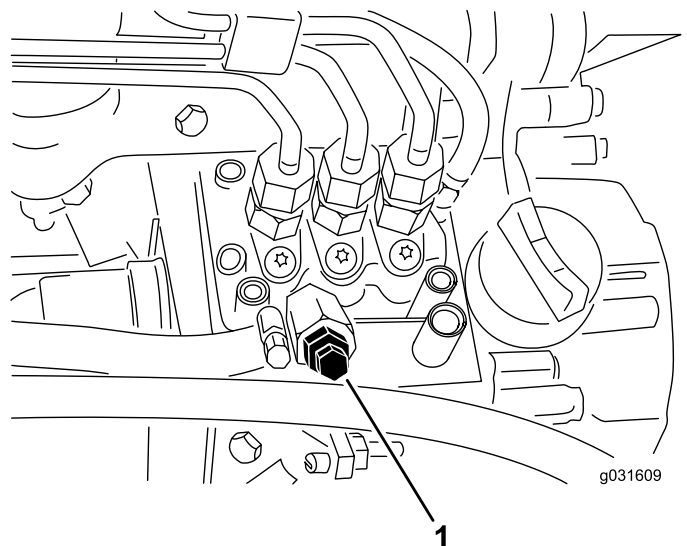

Figure 54
4. Open the air-bleed screw on the fuel-injection pump (Figure 54).